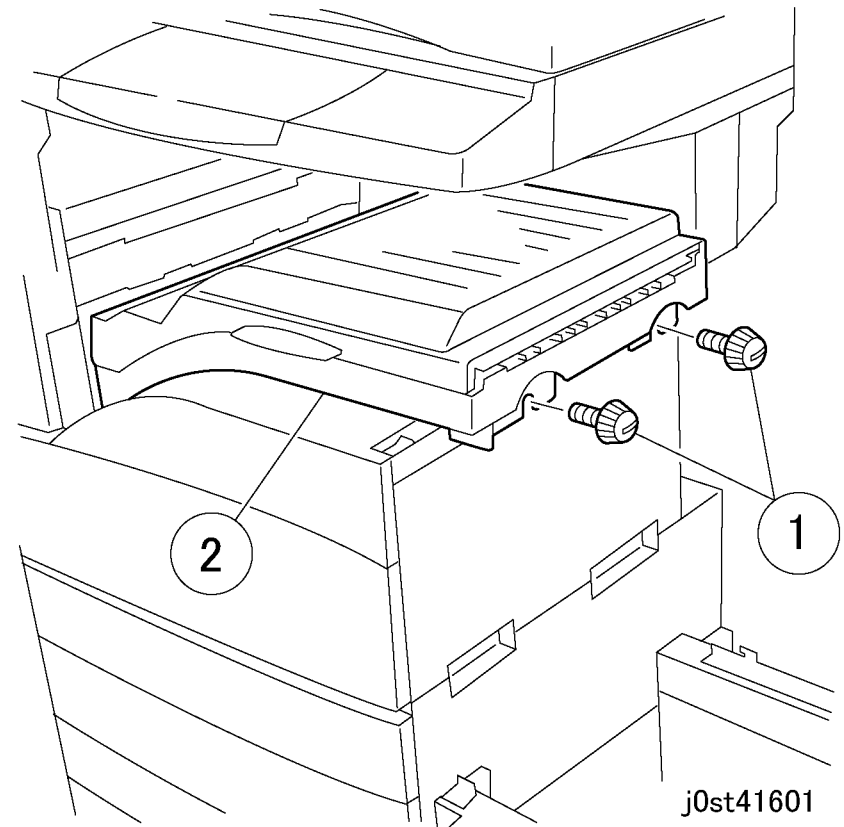

Figure 1 Removing the H-Transport Assembly (j0st41601)
2. Move the H-Transport Assembly. (Figure 1)